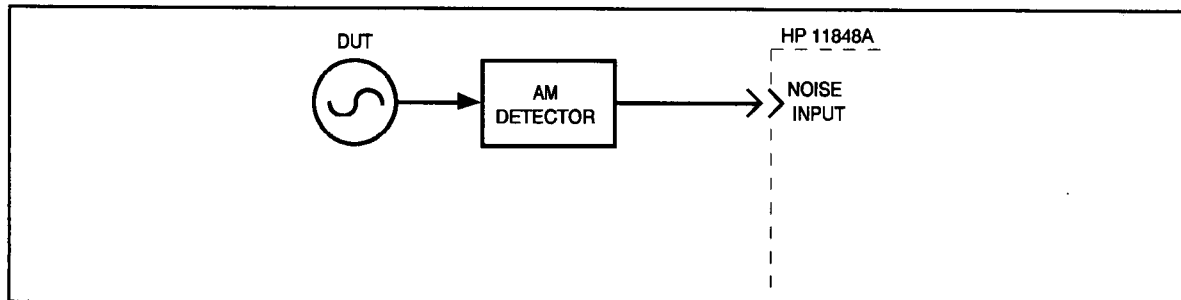

Figure 3-6. AM Noise Measurement Setup
1. Connect circuit as per figure 3-6, and tighten all connections.